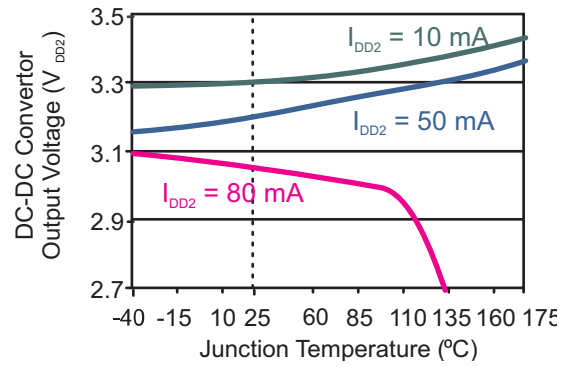

Figure 10. Typical DC-DC converter output versus temperature ($V_{DD1A} = 3.3$ V).
Internal DC-DC convertor thermal management circuitry gradually limits the output voltage and power output to approximately 250 mW as the junction temperature increases to avoid thermal overload (see Figure 10).
- Description of internal DC-DC convertor thermal circuitry (p. 10) and graph (Figure 10).